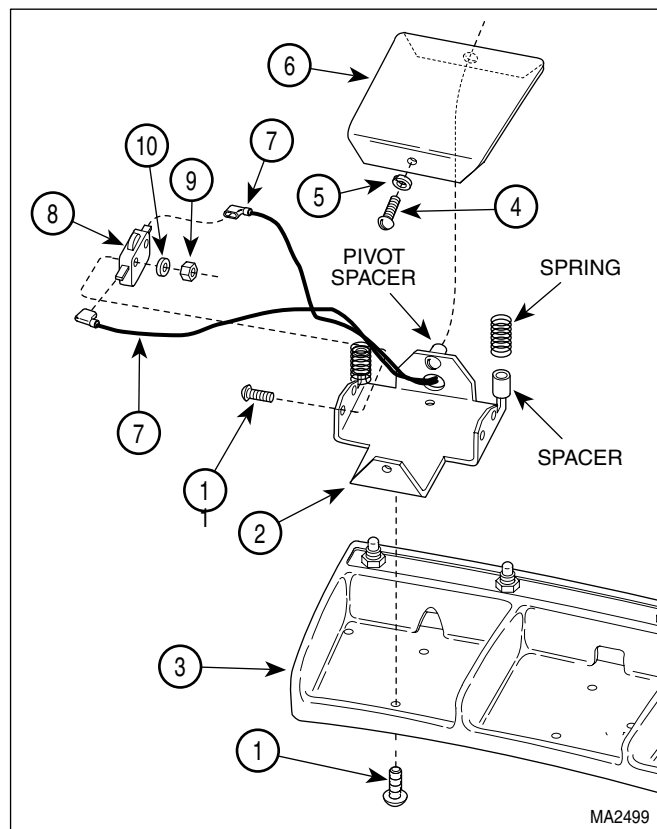

Figure 4-27. Typical Foot Switch (New Style)
- (1) Unplug coil cord of foot control from chair.
- (2) Remove two screws (1, Figure 4-27) and partially separate foot switch bracket (2) from foot control casting (3).
- (3) Remove screw (4), spacer (5), and pedal (6) from foot switch bracket (2).
- (4) Tag and disconnect two wires (7) from terminals of foot switch (8).
- (5) Remove two nuts (9), washers (10), screws (11), and foot switch (8) from foot switch bracket (2).